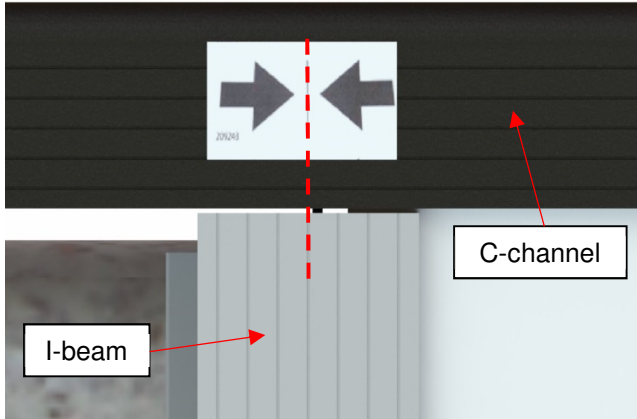
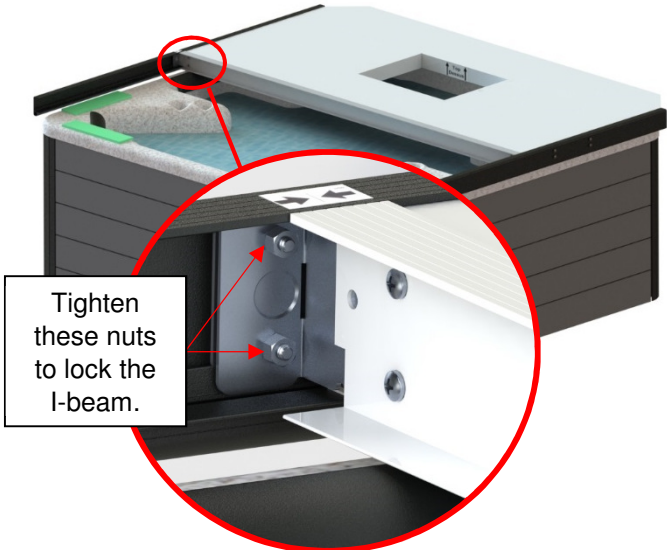

Figure 49
Figure 50
- 5) Assemble the short C-channels, approx. 81 7/16 in. (207 cm), over the previously placed fiberglass panel so that the middle of the C-channels, pre-marked with a centre sticker (Figure 50), is aligned with the edge of the panel. Ensure the screws untightened at step 4 are uncentered toward the rear of the spa. It is recommended to slightly engage the top flange before the bottom when sliding the C-channel onto the foam panel. (Figure 43)
- 8) Once the I-beam is properly centred into the C-channels using the center sticker (Figure 49), lock it in place by tightening the four nuts and carriage bolts on both sides of the I-beam (two on each side). (Figure 50)